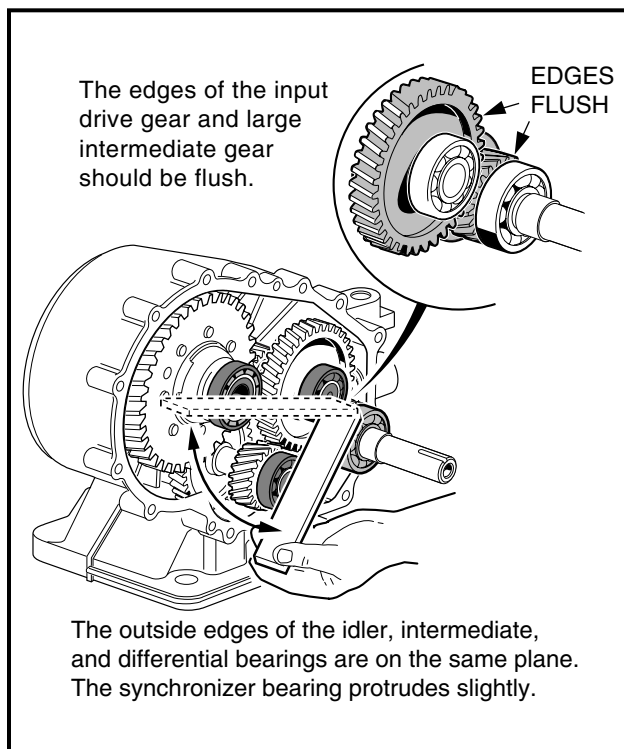

Figure 5-51 Gear Alignment
- 7.6. As a group, and keeping the gears meshed, work all of the gear assemblies into the bores until they are seated. When all of the assemblies are correctly seated, the outside edges of the input drive gear (52) and the intermediate gear (58) (**Figure 5-11, Page 5-7**) should be flush (in the same plane). Also, the outside surfaces of the idler gear bearing, the intermediate gear bearing, and the differential gear bearing should be flush (**Figure 5-51, Page 5-25**). See following **CAUTION**.